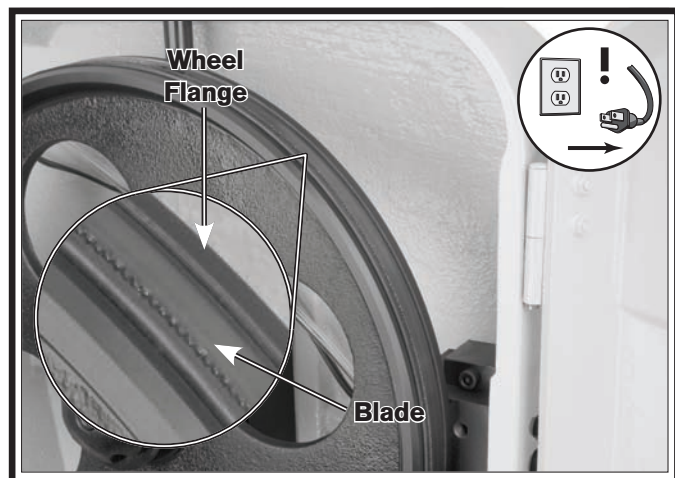

Figure 18. Back edge of blade next to wheel flange.
5. Position the back edge of the blade so that it is next to, but not against, the flange of the top wheel (see **Figure 18**).